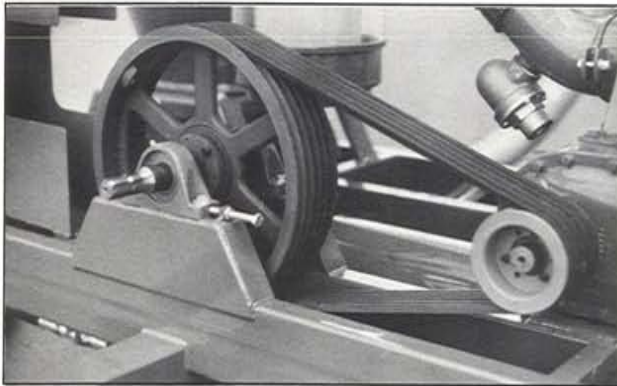

Figure 7 Belt drive
4. Open the belt cover and rotate the large pulley by hand to insure that the air pump turns freely. (see figure 7)